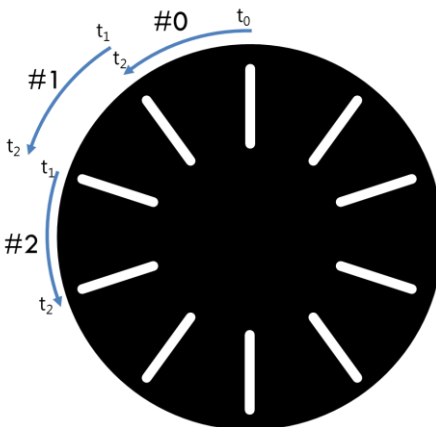

Fig. 8. Schematic of the time record in Arduino
- The Arduino records the time when the light passes through the 10-hole pulley as shown in Fig. 8. For the first set (#1), t_1 and t_2 are the first and second time that the light passes through the pulley, and t_2 becomes the starting time for the second set (#2).